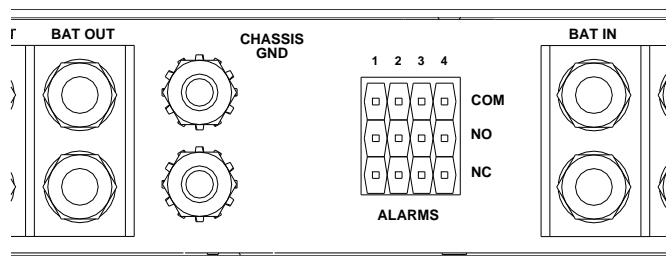

Figure 4.6.1
4.6. Each fuse position has a common (C), normally open (NO) and normally closed (NC) set of contacts for extending alarms. (See figure 4.6.1 for the location and layout of the alarm relay contacts). Wire wrap the alarm connections as per your alarm systems requirements. For example; to achieve a “ground alarm extension”, connect a ground supply to the common (C) contact and connect the alarm signal wire to the normally open (NO) contact. In an alarm state a “ground” will be sent out from the panel.